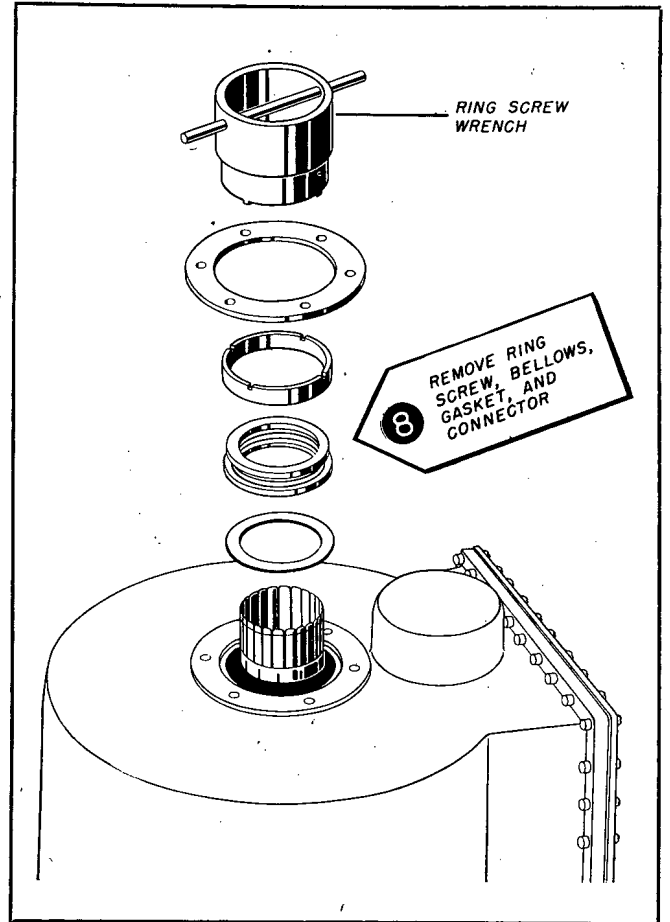

Figure 7-92. Disassembly of Rotating Joint
(4) Step 8 in Fig. 7-92 shows the disassembly of the rotating joint on top of the Pedestal. First, remove the gasket. Then use the special wrench supplied, to remove the ring screw as illustrated. The remainder of the parts may then be lifted out. When removing the splined connector, be careful not to damage the bellows assembly or to scratch its bearing surfaces. If these surfaces become scored, it will be necessary to refinish the bearing surfaces by lapping them with a fine grade of lapping compound. The bearing surfaces should be lapped in against the surfaces that they normally fit against. Badly scored bellows assemblies should be replaced.